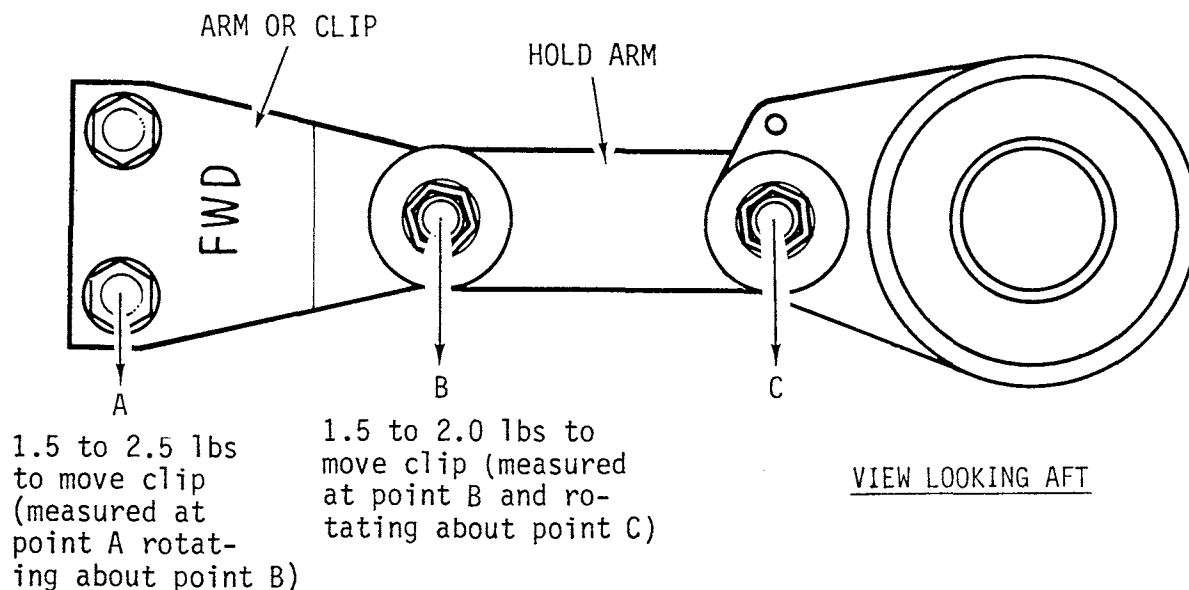

FIGURE 7-11A
- f) Using a spring scale or dead weight, measure pivot frictions per Figure 7-11A. If friction is less than specified, bend A041-6 spring washer until it has a 0.070 ± 0.010 inch total height. If spring washer height is within limits but friction is still too low, lap metal from end of A105-9 journal. If friction is greater than specified, flatten A041-6 spring washer slightly or replace A105-9 journal.